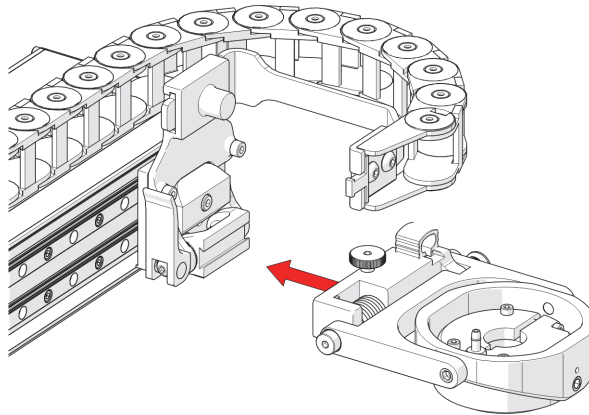

Figure 2-38 Attached to dovetail jaw
4. Align the dovetail jaw of the corrosion thickness probe holder (see Figure 2-38 on page 74) and the pivot mount of the raster arm.